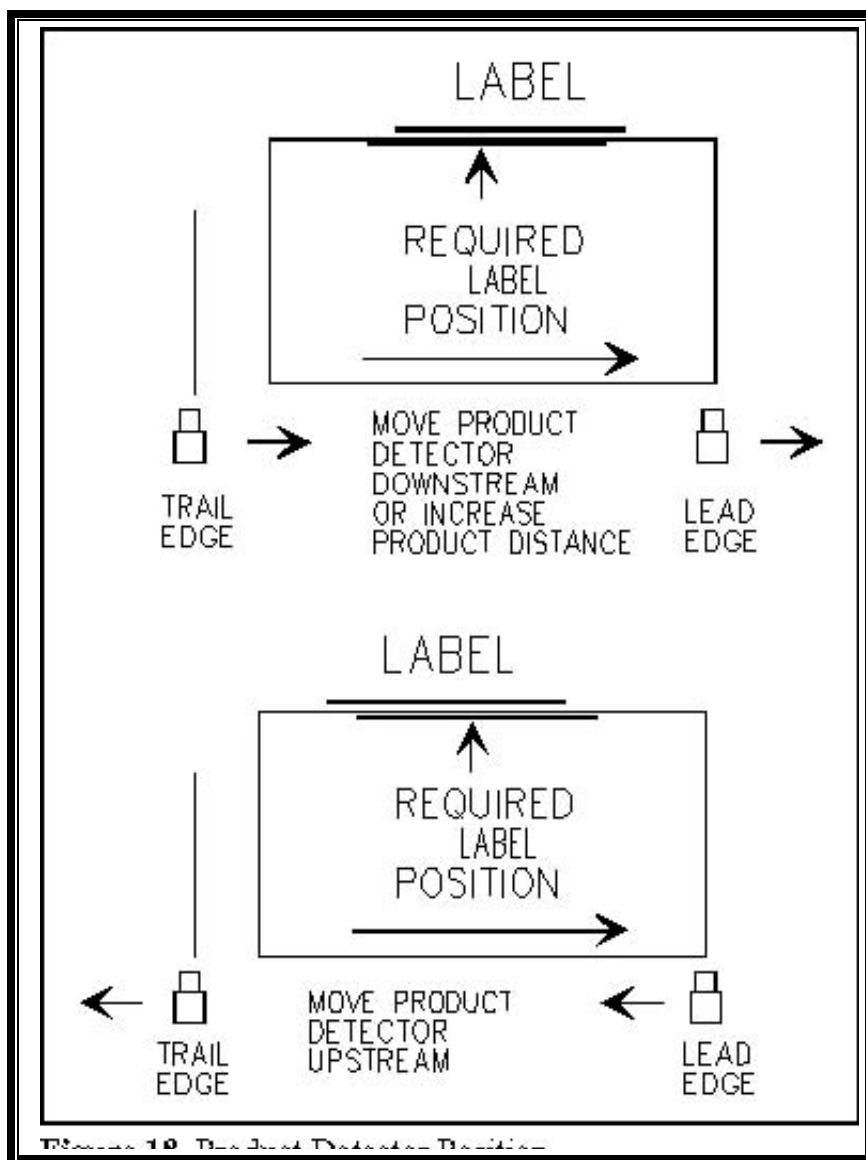

Figure 47 Product Detector Position
4. If the label was applied too close the leading edge of the product (early), either reposition the product detector further downstream or increase the LABEL ON PRODUCT POSITION setting. Refer to Figure 47.
8. If the label was applied too close the leading edge of the product (early), either reposition the product detector further downstream or increase the LABEL ON PRODUCT POSITION setting. Refer to Figure 47.
If the label was applied too far from the leading edge of the product (late), reposition the product detector further upstream. Refer to Figure 47.